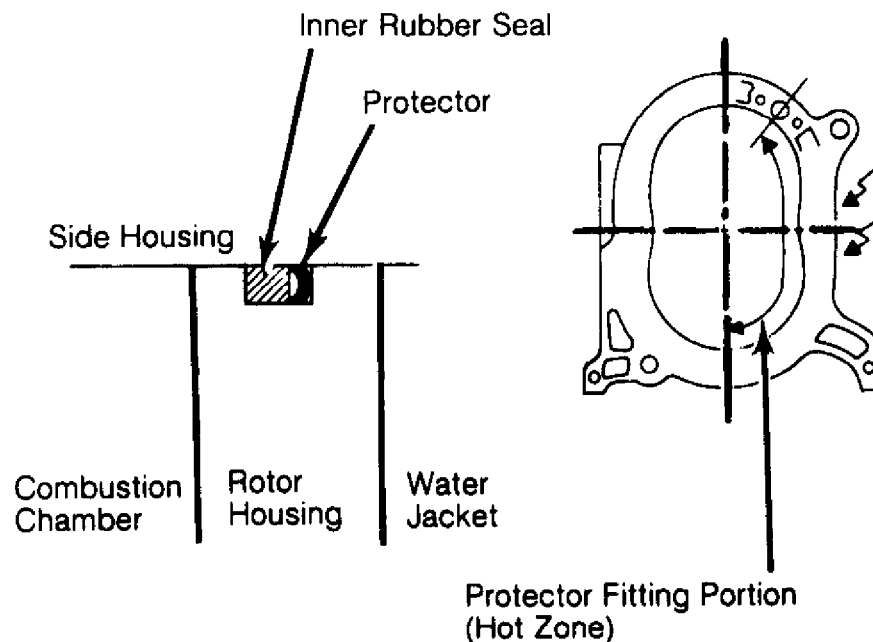

Fig. 23: Installing Protectors for Inner Sealing Rubbers
2) To ensure greater sealing rubber durability, install a protector behind each inner sealing rubber. See Fig. 23. Install new "O" ring, sealing rubbers and protector in front side of engine housing. Apply light coat of petroleum jelly to hold seals in place.